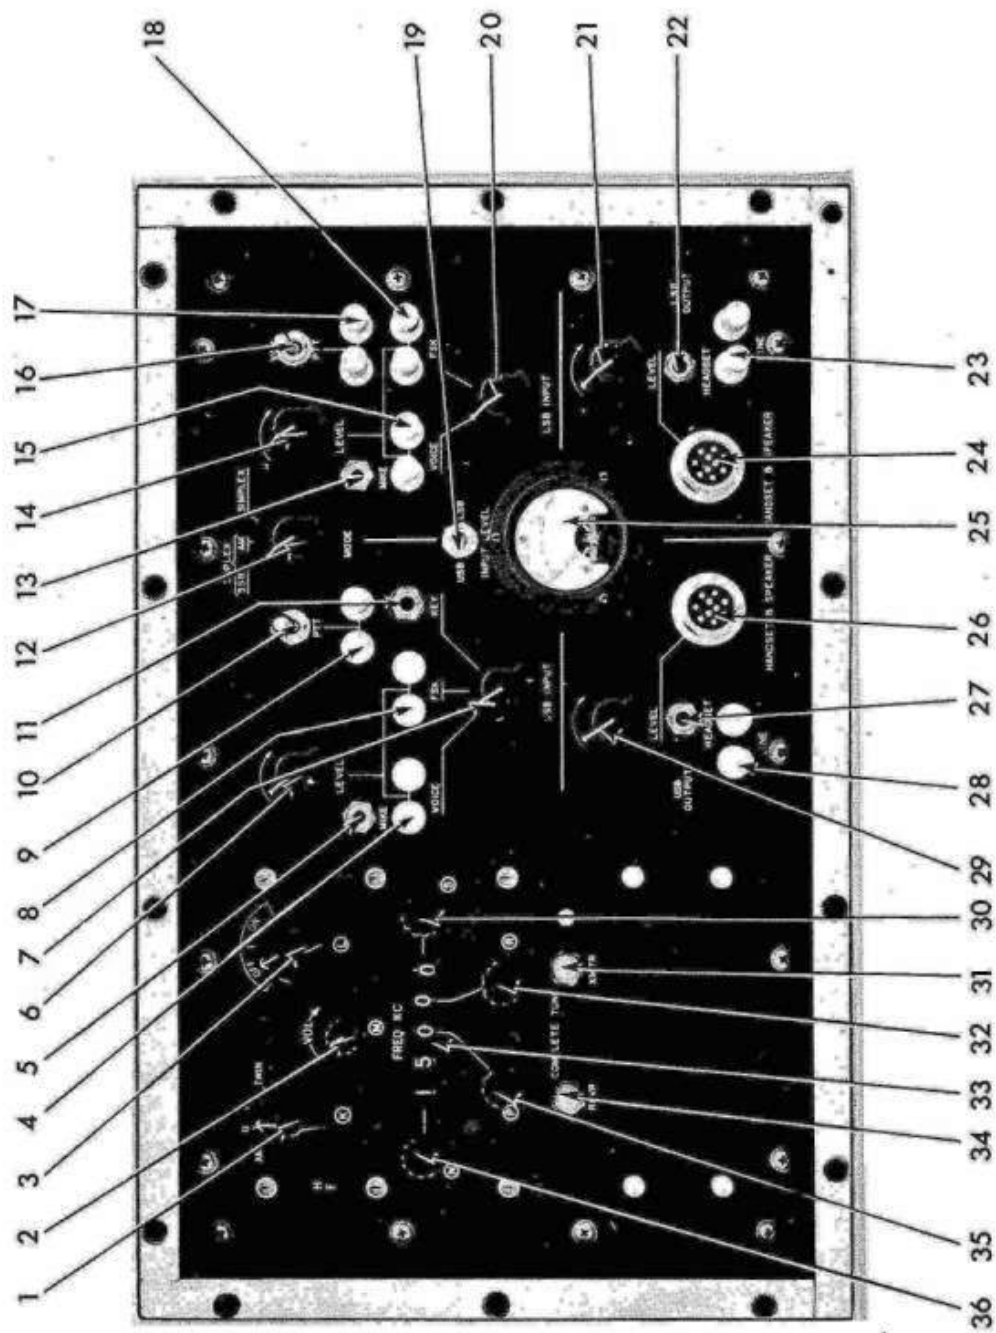

FIG 25 - CONTROL PANEL OF DUPLEX RECEIVER 651E-1
161. The operating controls, indicators and connectors of the Duplex Receiver 651E-1 are listed and described in Table 5 and illustrated in Figs 25 and 26. The order in which the controls are listed does not constitute an operating sequence. The receiver control panel is divided into four general areas. The upper portion of the panel contains transmitting terminals and controls, and the lower portion contains receiving terminals and controls. Upper sideband functions are located on the left, and lower sideband functions are located on the right of the control panel.
(\* Key numbers refer to Fig 25, Duplex Receiver 651E-1 Control Panel)
164. In duplex operation, the Radio Set AN/TRC-75 (Duplex) is used as a transmitter and Duplex Receiver 651E-1 acts as an independent receiver. The control panel (Fig 25) of the Duplex Receiver 651E-1 provides output connections and control functions for the receiver, and audio input selection and level control for the transmit functions which are interconnected with Radio Set AN/TRC-75 (Duplex).
187. Place the MODE selector switch on the Duplex Receiver 651E-1 control panel (Fig 25) to DUPLEX SSB or DUPLEX AM, as desired, If the mode selected is DUPLEX AM set both the USB INPUT and LSB INPUT switches to the VOICE position.
188. At the Radio Set AN/TRC-75 control panel (Fig 23) select the desired transmitting frequency by rotating knobs (N) (P) (R) (S) until the desired frequency digits appear in the columns of the FREQ KC dial. At the Duplex Receiver 651E-1 control panel (Fig 25) set the desired receiving frequency by rotating knobs (N) (P) (R) (S) until the desired frequency digits appear in the columns of the FREQ KC dial. Make certain that this receiving frequency is separated from the transmitting frequency by at least 20 per cent.
190. Rotate the OFF-ON switch (L) (Fig 25) on the Duplex Receiver 651E-1 to the ON position. The receiver will now tune and the transceiver will coarse-tune. When receiver tuning is complete, the RCVR COMPLETE TUNE lamp (Fig 25) will light. This tuning requires about 20 seconds. An 800-cycle tune-tone is present in the radio set AN/TRC-75 (Duplex) during the tune-cycle.
192. When ready to transmit, operate the USB VOX-PTT switch (Fig 25) to VOX to complete transmitter tuning. Operating the microphone push-to-talk switch or completing the line PTT circuit will also initiate transmitter fine tuning. Completion of tuning is indicated when the tune-tone ceases and the XMTR COMPLETE TUNE lamp (Fig 25) lights. Complete tuning requires from 2 to 60 seconds. While the transmitter is tuning, observe the RF WATTS meter (Fig 23) for a reading of about 100-watts on the top scale with the meter RF POWER switch (T) in the FWD 1,000 W position.
195. If 600-ohm line inputs are used, adjust the level with the LEVEL controls (Fig 25) while observing the INPUT LEVEL meter (Fig 25) for the sideband being set. Set the input levels of the 600-ohm lines for FSK operation without speech for an indication of 100 on the INPUT LEVEL meter with a constant tone input. When transmitting audio signals containing combined FSK tone and speech, set tone alone to approximately 70 so that peaks on speech will not exceed 100 on the meter. Audio peaks for VOICE operation will normally be less than 100. Use the meter indications observed during use of the local microphone as a guide for adjusting typical VOICE line input levels.
197. Adjust the VOL control (M) (Fig 25) on Duplex Receiver 651E-1 control panel to set the RF gain of the receiver.
198. Adjust the audio output to the USB and LSB speaker and/or headset with the OUTPUT LEVEL controls (Fig 25) for a comfortable audio level.
200. For CW operation ensure that the circuit from the CW key to the Key jack on the Duplex Receiver control panel (Fig 25) is properly connected up. Set the Upper Sideband (USB) VOX-PTT switch at the VOX position, and set the USB INPUT selector at KEY. This initiates the complete tuning cycle. For CW operation with A2J emission the emitted frequency is then 800 c/s above the frequency set on the radio set panel. When working to a normal CW receiver and transmitter which uses a BFO for A1 operation, tune Radio Set AN/TRC-75 (Duplex) to a frequency 1 kc/s below the nominal operating frequency.
201. Close down. - To turn off the sets, rotate both ON/OFF switches (L of Fig 23 and 3 of Fig 25) to the OFF position and switch both primary circuit breakers (B of Fig 24 and Fig 14) to the OFF position. Also switch the main circuit breakers on the Power Distribution Box (Fig 16) to the OFF position.